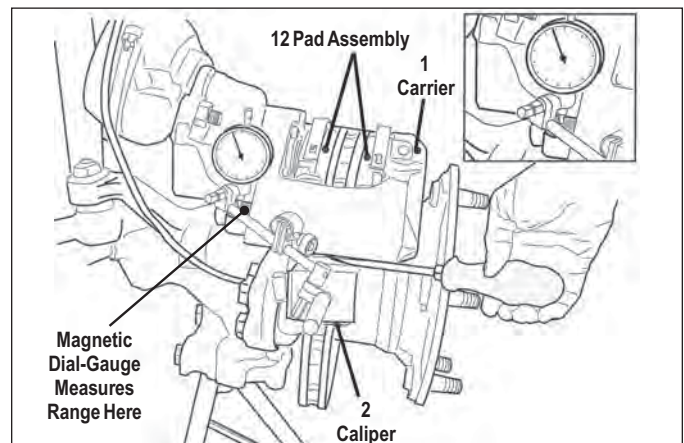

FIGURE 27 - MAGNETIC DIAL-GAUGE IN USE
in Figure 27. Press the caliper in the direction of the carrier (2) and set the dial-gauge to zero.
- 4.5.3 Place a suitable tool (e.g. a large flat-blade screwdriver) between carrier (2) and caliper (1) and use light hand force to move the caliper away from the carrier, until the movement stops. Read the maximum value on the dial-gauge. See Figure 27.